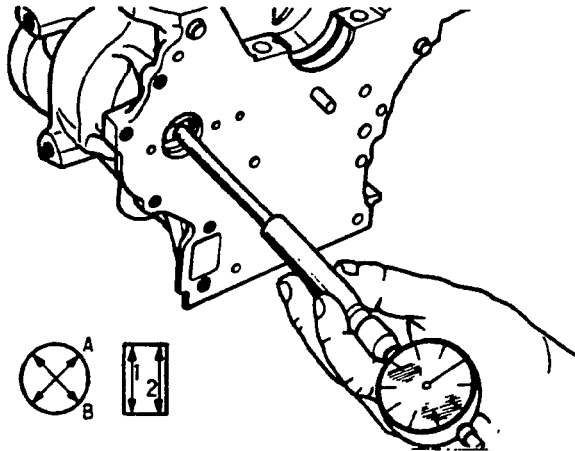

FIGURE 9-31. MEASURING BALANCER SHAFT BEARING I.D.
3. Measure the balancer shaft O.D. and bearing I.D. Check the oil clearance. The bearing I.D. should be checked at two points, front and rear, in the directions A and B as shown in Figure 9-31.